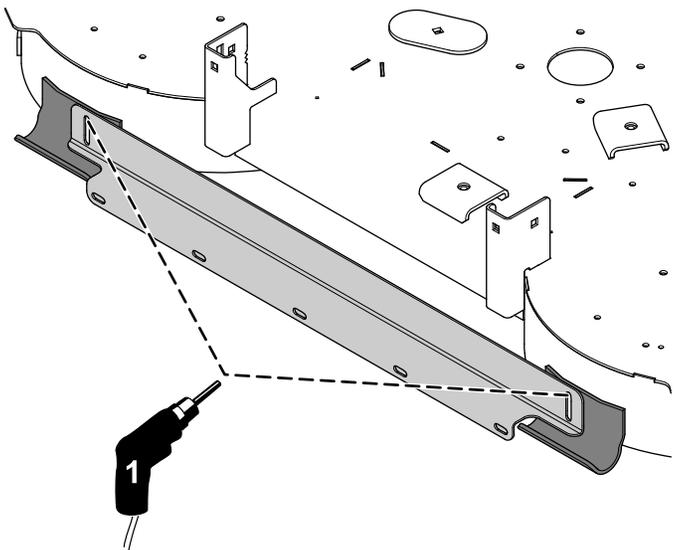

Figure 4
4. Using the striping bracket as a drilling template, mark 2 locations at the top of the slot of the striping bracket (Figure 4).
5. Drill 2 holes (9/32 inch) in the skids (Figure 4).